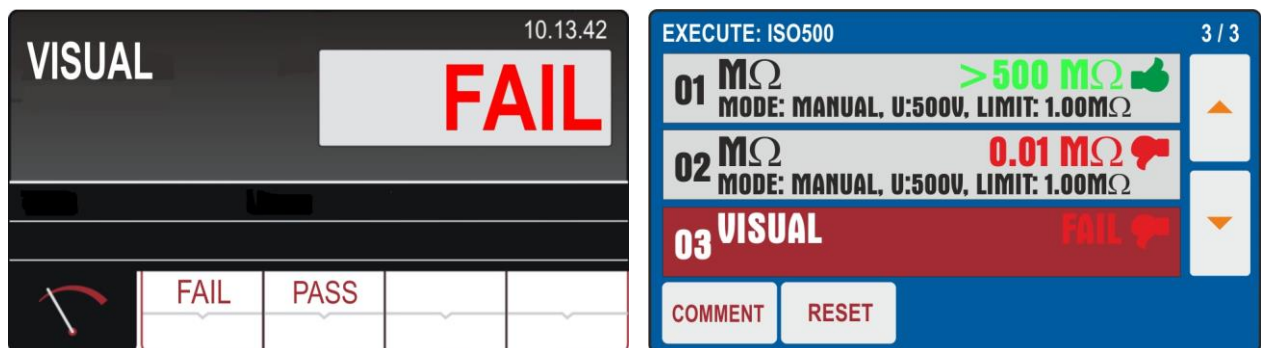

Fig. 79 : AUTO TEST Function - Final result
11. Press the **START/STOP** key twice to activate the "03" test of the Autotest which in the example considered is the **VISUAL** function which indicates the Pass or Failed result of the test inserted by the operator (see Fig. 79 - left side)
13. At the end of the Autotest the instrument has a final screen similar to that shown in Fig. 79 - right side